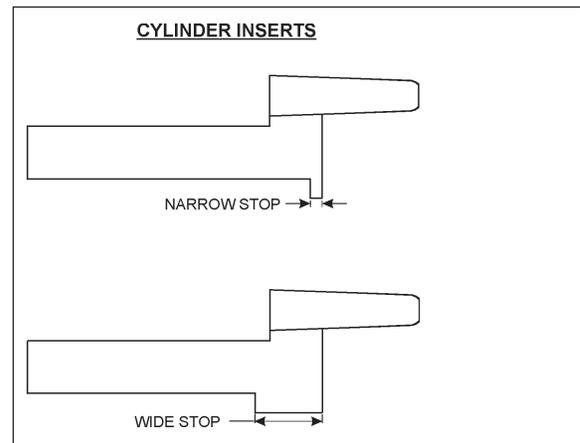

Figure 19
2. Select the appropriate cylinder insert. Refer to Figure 19. If the door thickness is 1 1/2" (38mm) or less, use the cylinder insert with the narrow stop. If the door thickness is greater than 1 1/2" (38mm), use the cylinder insert with the wide stop.